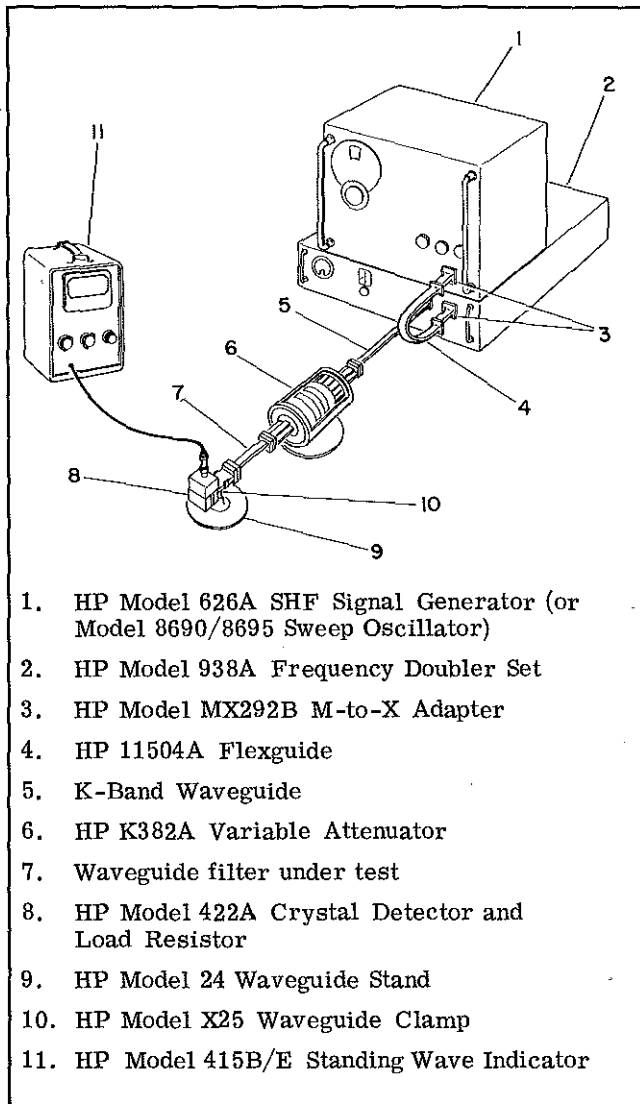

Figure 3. Typical K-Band Setup for Measuring Insertion Loss
10. When sensitivity is important, the Model 422A is also useful for relative power measurements such as measuring insertion loss or monitoring power level where the power is sampled with a directional coupler. A typical K-band setup for measuring insertion loss is shown in Figure 3. Device under measurement is a waveguide filter. The reference reading is made with the filter out of the line and the Model K382A Variable Attenuator set for at least 10 dB; the setting of the attenuator as well as the reading of the Model 415B/E are noted. Then the filter is inserted in the line and the attenuator adjusted to again obtain the reference reading on the Model 415B/E. Difference between the first and second settings of the attenuator is the insertion loss of the filter. Characteristics required of equipment used in a setup like that shown in Figure 3 are discussed below.